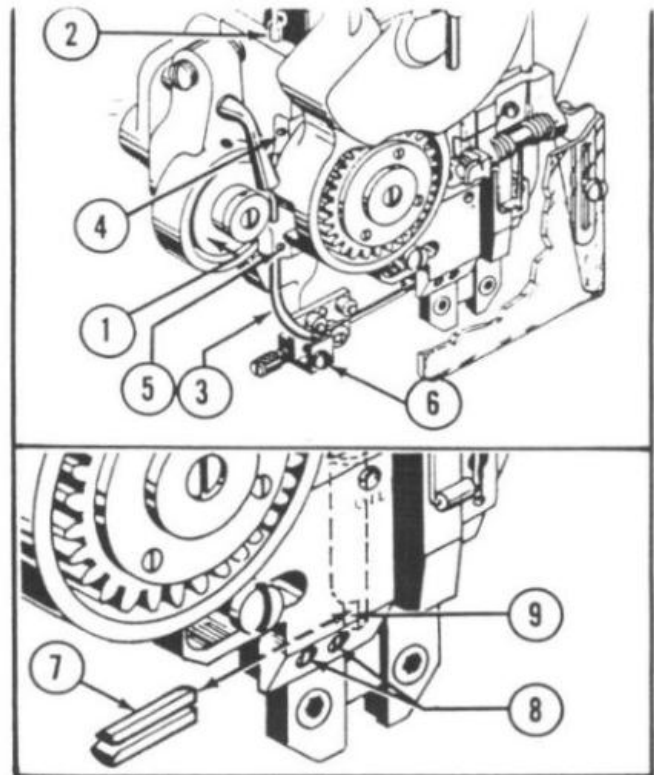

Figure 17—Inspecting Wire Feed Gears, Tubes, and Stationary Cutter
a. WIRE FEED GEARS (See Fig. 17)—The wire feed gears (Fig. 17 shows the left, or idler, gear (1) the right, or drive, gear being located behind the wire feed guard) should be checked for smooth and parallel wire gripping surface. Worn surfaces may result in wire slipping thereby not feeding properly; if surfaces are not parallel, wire may be rolled on one side causing wire curvature and resulting in imperfect stitches.
b. WIRE FEED TUBES (See Fig. 17) The upper and lower wire tubes, (2) and (3), should be checked for any obstructions in the tube passages which may interfere with free movement of wire. Slots may eventually appear in tube passages, due to normal wear, which will cause the wire to catch and bind, thereby resulting in improper feeding.
c. STATIONARY CUTTER (See Fig. 17)—The stationary cutter (7) should be periodically checked for any obstructions in the wire passage which may interfere with free movement of wire. Check that cutting end is sharp; dull cutter may be resharpened, but eventually must be replaced.